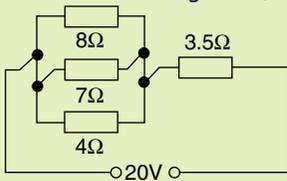

Figure 22
5. For the circuit of Figure 22, find